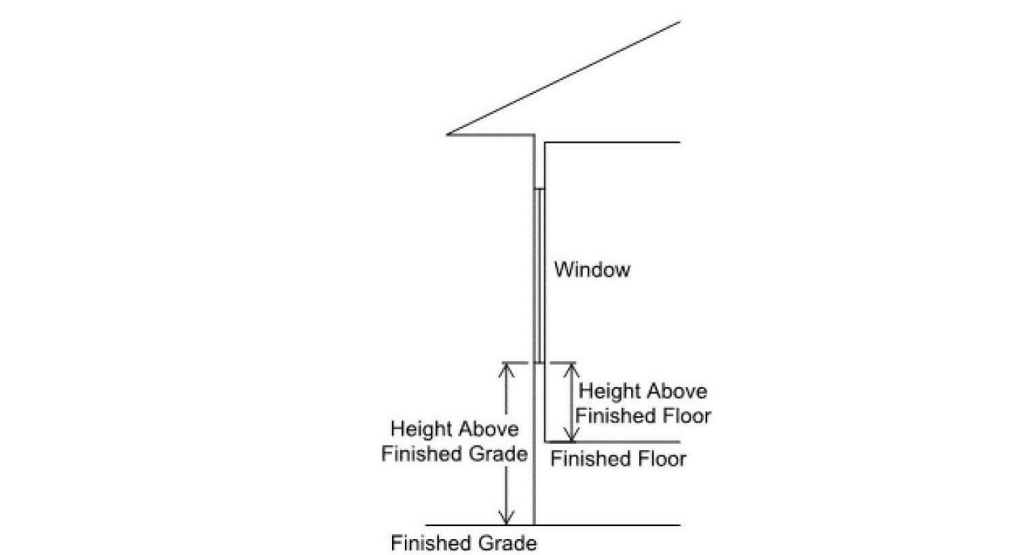

Figure 1: Sill height above finished grade on the exterior side of an operable window opening
- Where the sill height above finished grade on the exterior side of an operable window opening is greater than 72 inches, and the sill height above the finished floor on the interior side of the operable window opening is less than 24 inches (or 36 inches in dwelling units regulated by the IBC) (see Figure 1), then window fall protection shall be provided by one of the following (R312.2.1, R312.2.2; IBC 1015.8):